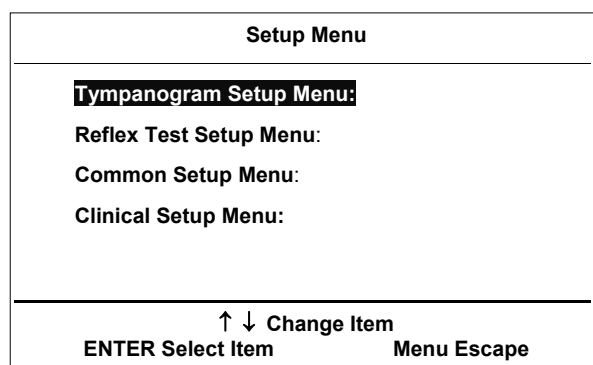

Figure 34
Select the menu option SETUP as illustrated in Figure 34 and the main setup menu will appear on the LCD display ⑤. You can make different settings for the measurement of the tympanogram and the stapedius reflex, for instrument setup (for example the contrast of the LCD display ⑤). All your settings are saved permanently until you will change them again. The instrument is switched off.